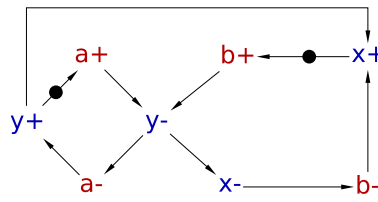

Figure 8: STG
- c) Consider the STG and the state graph derived from it shown in Figures 8 and 9. The variables a and b are inputs while the variables x and y are outputs.